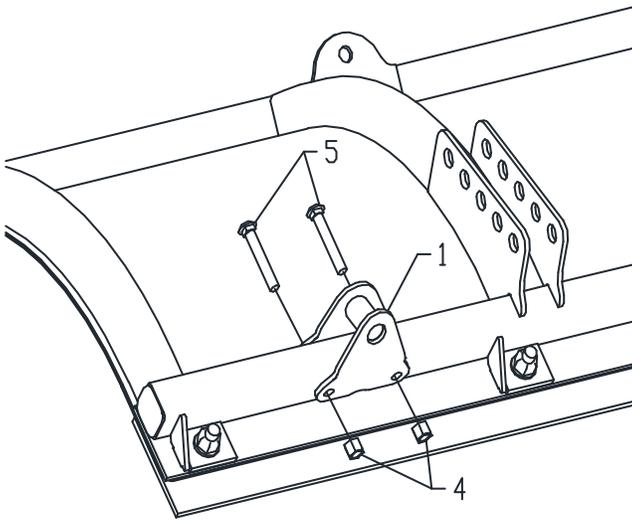

Figure 2. Plow Shoe Mounting Bracket Assembly G10923
- 5) Using two 3/8"-16 X 2-1/2" Carriage Bolts (5) and two 3/8"-16 Self-Locking Nuts (4), attach Plow Shoe Mounting Bracket (1) to the square tube. See Figure 2.